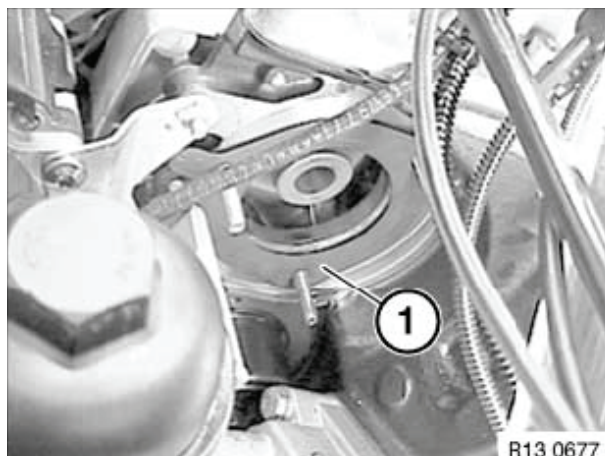

Figure 6-28
2. Ensure gasket surfaces of the engine block and high-pressure pump are clean. Install new gasket (**Figure 6-28, (1)**).